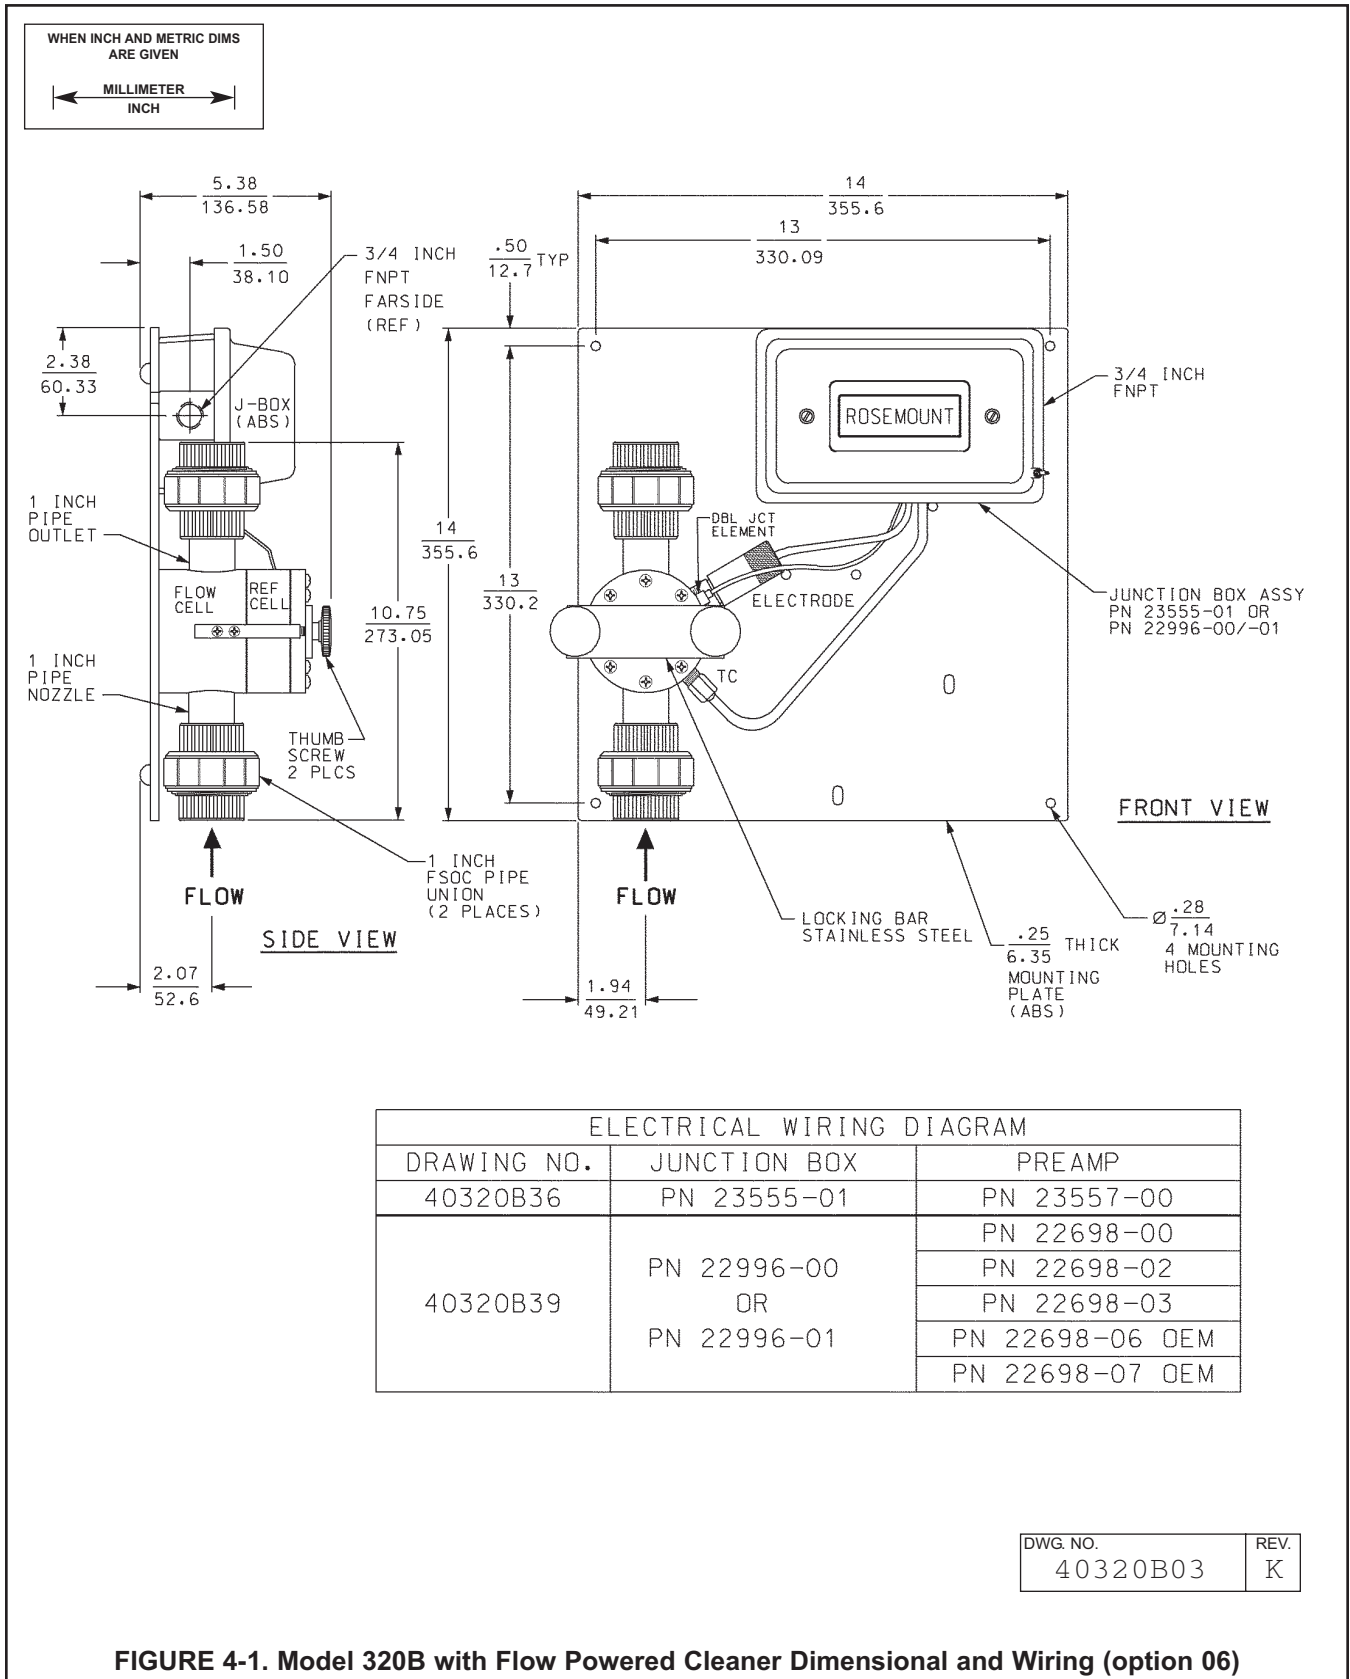

FIGURE 4-1. Model 320B with Flow Powered Cleaner Dimensional and Wiring (option 06)
4.2.2 Installation. See Figure 4-1 (option 06) for dimensional information.